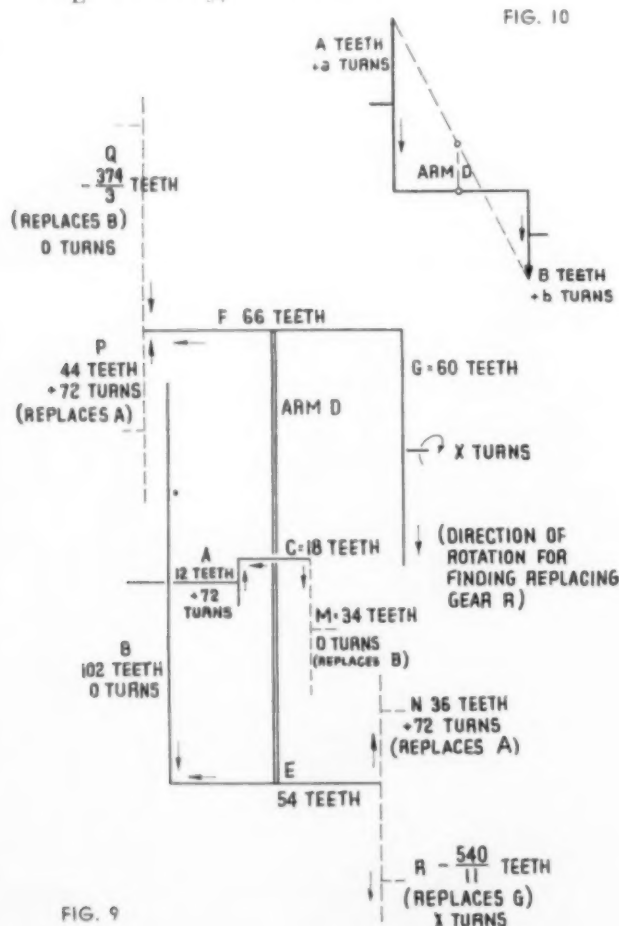

FIG. 9
For example: Train 1 runs A, C, (D), E, B, with d, the number of turns of the arm, as the unknown. The solution is shown on part of Fig. 9. We can replace B by M, meshing with C, and making O turns like B. We draw any direction of rotation of M into the chart, assuming it to be the same as for B, if this would rotate. To have the same effect on C as B has on the way over E on C, we have to give $M = B \times \frac{C}{E} = 102 \times \frac{18}{54} = 34$ teeth.
Our Formula 2 then becomes: $d = \frac{B \times b - A \times a}{B - A}$, indicating that in such a case we simply take the number of teeth negative to arrive at the correct result. For Fig. 9 this result would be: Q (replacing gear for B) = $B \times \frac{F}{E} =$
Another possibility to solve this would be to replace G by R, which is supposed to have the same number of revolutions as G (Fig. 9). In this way we make the basic train B, E, R, similar to Q, F, G. R would have $-60 \times \frac{54}{66} = -\frac{540}{11}$ teeth.